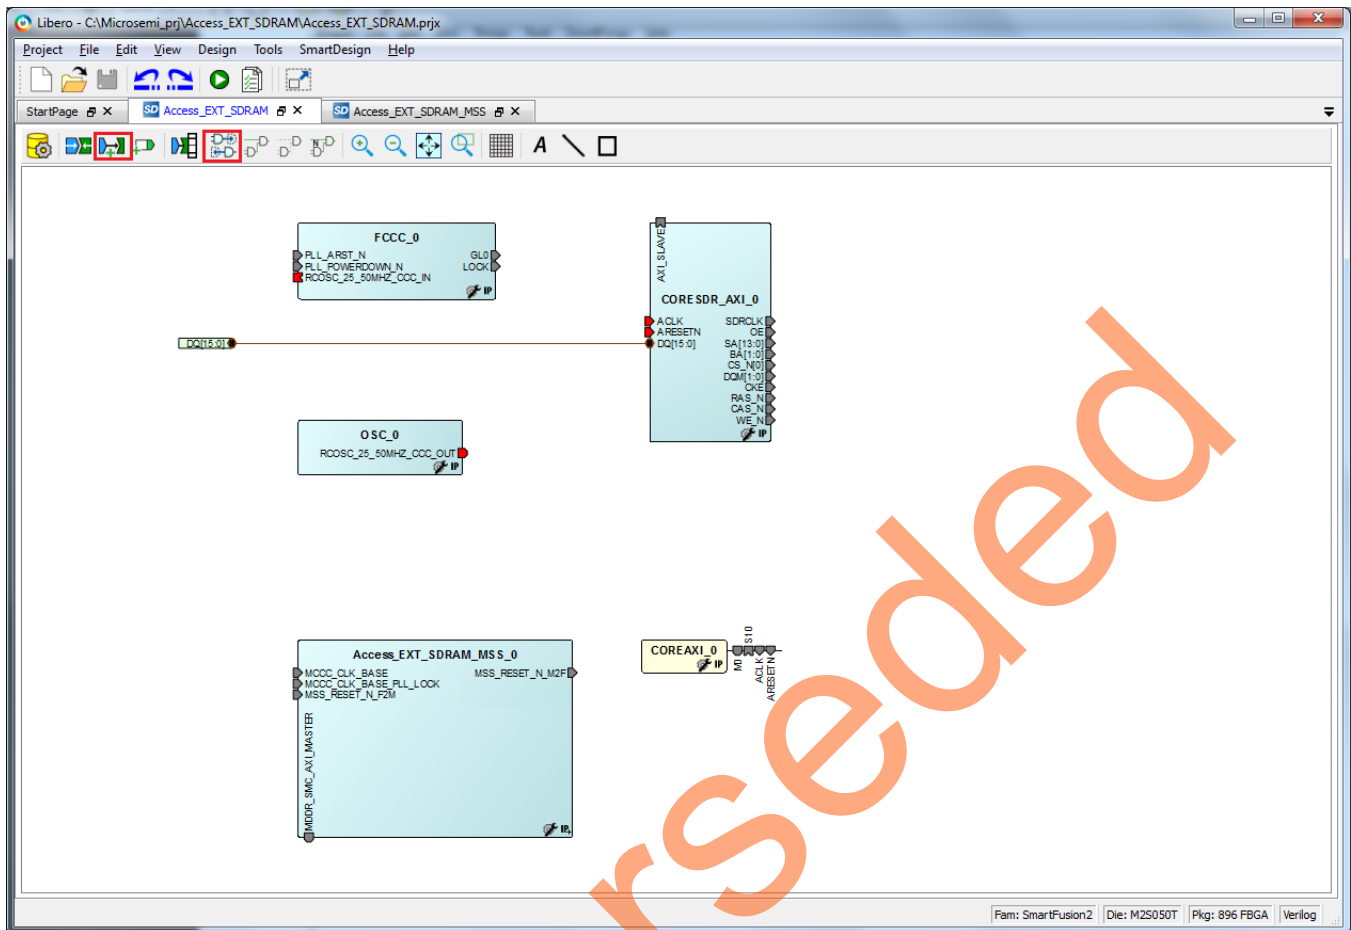

Figure 22. Changing to Connection Mode
- The first method is by using the Connection Mode option. Change the SmartDesign to connection mode by clicking the **Connection Mode** button on the **SmartDesign** window, as shown in Figure 22. The cursor changes from the normal arrow shape to the connection mode icon shape. Click on the first pin and drag-drop to the second pin that needs to be connected.